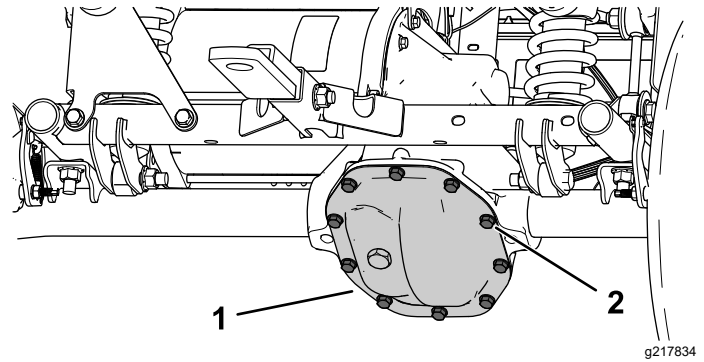

Figure 55
2. Remove the bolts from the transaxle cover and drain the fluid completely (Figure 55).
1. Align a drain pan under the transaxle cover (Figure 55).